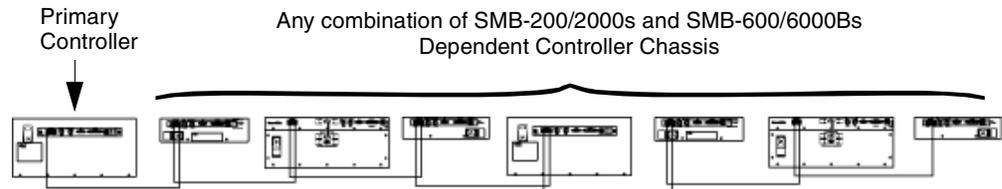

Figure A-3. Example of Multiple Chassis Expansion Connection
An *expansion* connection involves any combination of SMB-200/2000/600/6000B chassis connected horizontally, via the RJ-45 expansion connectors. You may connect up to eight chassis (one *primary controller* and seven *dependent controller* chassis). This allows for multiple chassis test synchronization with one clock source (*primary controller*), which supplies the synchronization in the system. *Figure A-3* shows an example of an *expansion* connection.
- 2 Connect the remaining chassis in your system, (Category 5 UTP cables) not to exceed a total of eight chassis (one *primary controller* and seven *dependent controllers*). For an example, refer to Figure A-3 on page 70.